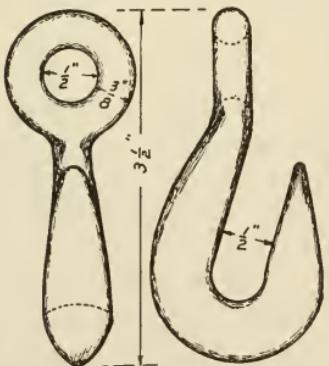

FIG. 194.—COMPLETED HOOK.
5. Bending the hook.—Bend the hook as in Fig. 194. Remember that the middle point of the bend must be opposite the eye of the hook.